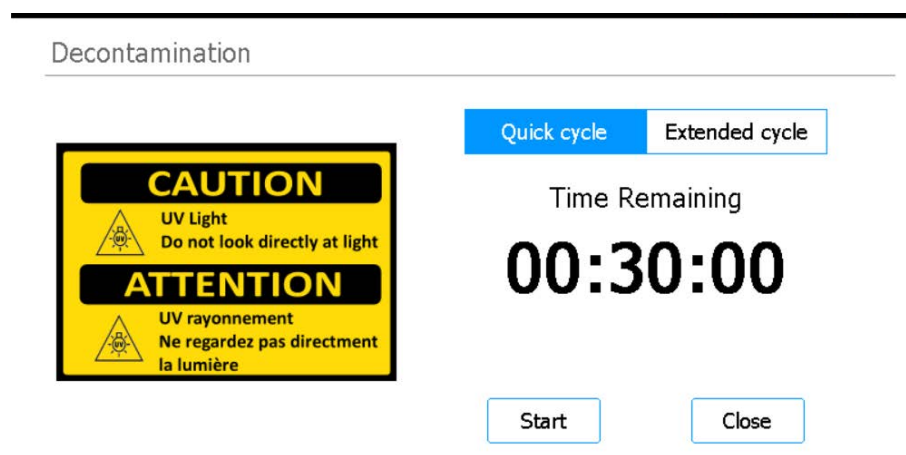

Figure 5 Decontamination screen with Quick cycle selected
- 3 At the top of the screen, select **Quick cycle**, as shown in **Figure 5**